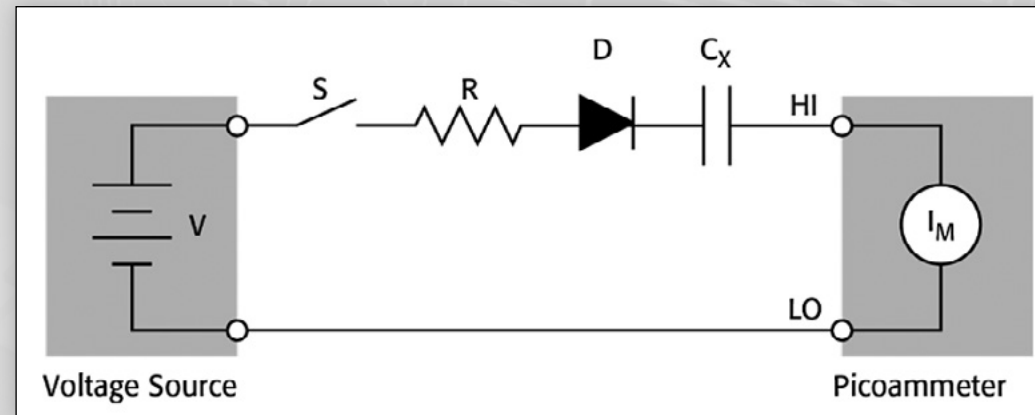

Figure 4. Capacitor leakage test circuit with diode
Capacitor leakage is measured by applying a fixed voltage to the capacitor under test and measuring the resulting current. The leakage current will decay exponentially with time, so it's usually necessary to apply the voltage for a known period (the "soak" time) before measuring the current. Improved performance will result if a forward-biased diode (D) is included in the circuit, as shown in **Figure 4**. The diode acts like a variable resistance, low when the charging current to the capacitor is high then increasing in value as the current decreases with time. The series resistor can be much smaller since it is only needed to prevent overload of the voltage source and damage to the diode if the capacitor becomes short-circuited.